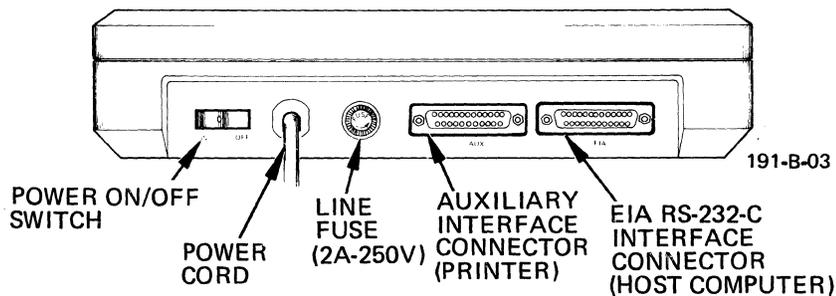

Figure 2-2. The Rear Panel of the Display Module Pedestal
1. Verify that the Power Switch on the rear panel of the display module pedestal is in the OFF position. The rear panel of the display module pedestal is illustrated in Figure 2-2.